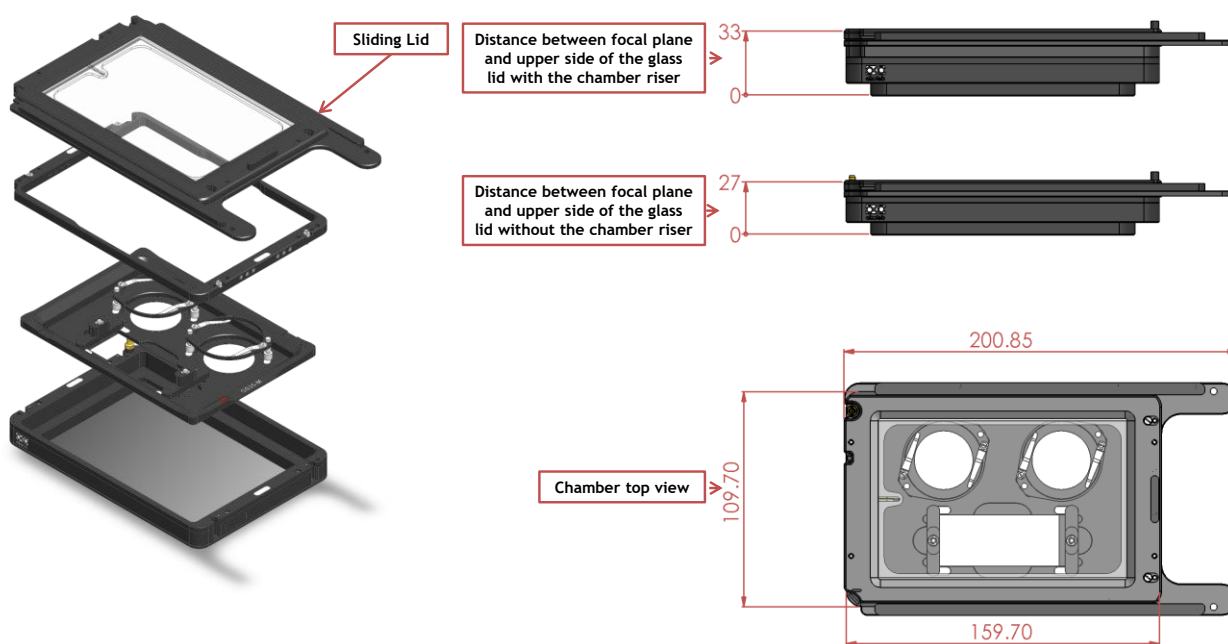
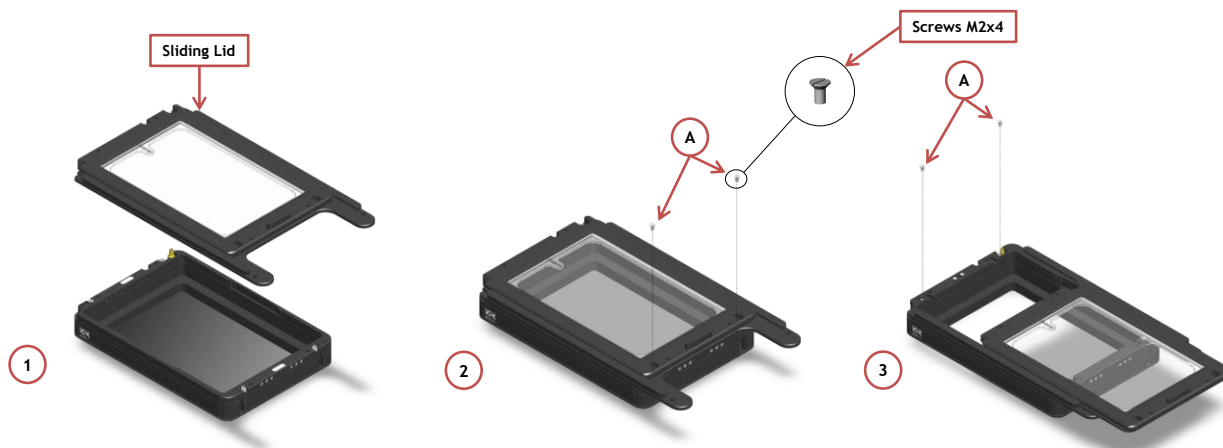

Figure 3. H301-PI-736-160x110 (Sliding Lid comes as standard)
Figure 4. Assembly of the sliding lid
Figure 3 shows chamber dimensions with the Sliding Lid (with and without chamber riser). Figure 4 illustrates how to remove Sliding Lid, when a different Lid is necessary.
**NOTE: Sliding Lid MUST BE REMOVED when using any other Lid.** The Sliding Lid is fixed onto the chamber with 4 screws. Screws location is indicated by letter A in Figure 4 (image 2 and 3). Keep Sliding Lid fully closed to access screws labeled A in image 2. Open Sliding Lid to access screws labeled A in image 3.